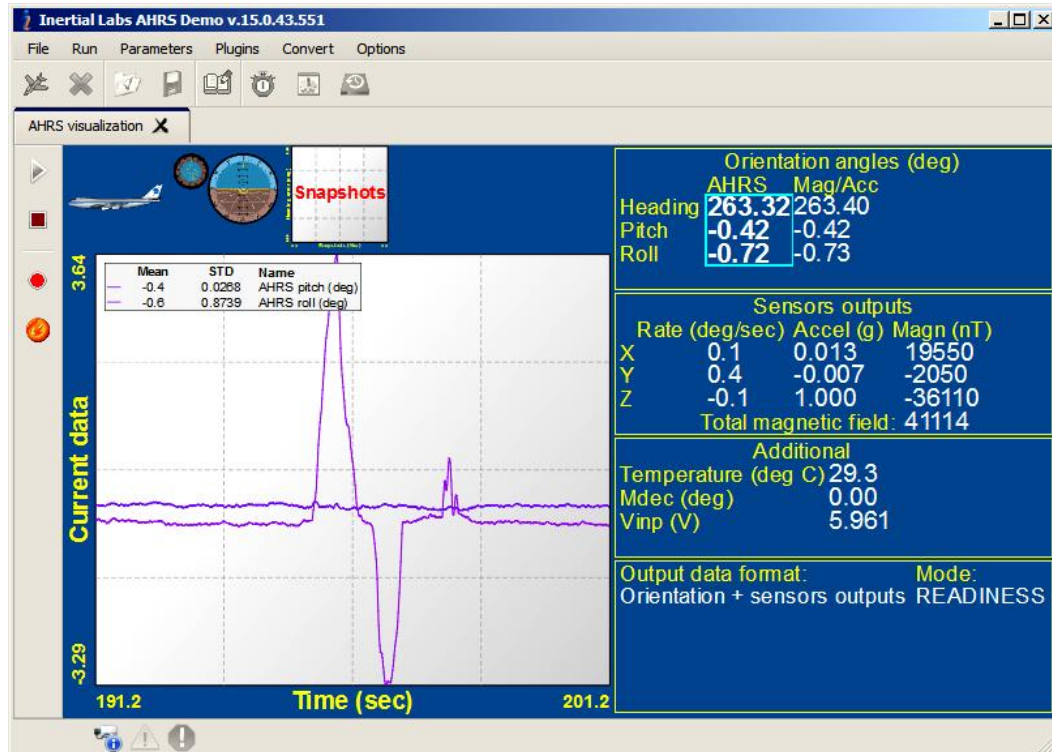

Fig. 3.7
- “**Data graphs**” by clicking on preview shown in the Fig.3.4d and window shown in the Fig. 3.7 will appear.